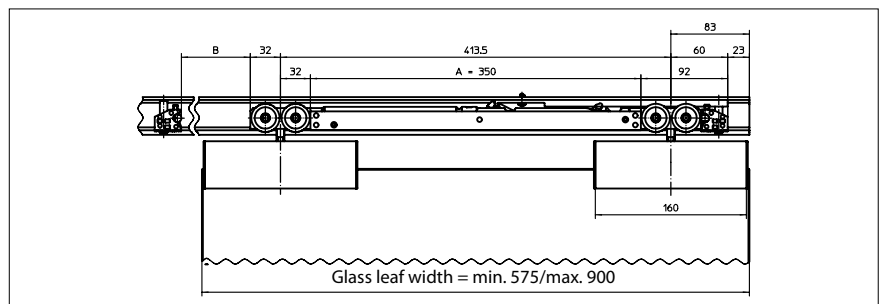

Fig. 41-4
e.g. with glass leaf, short design (1-side), damping in one direction, see Fig. 41-4